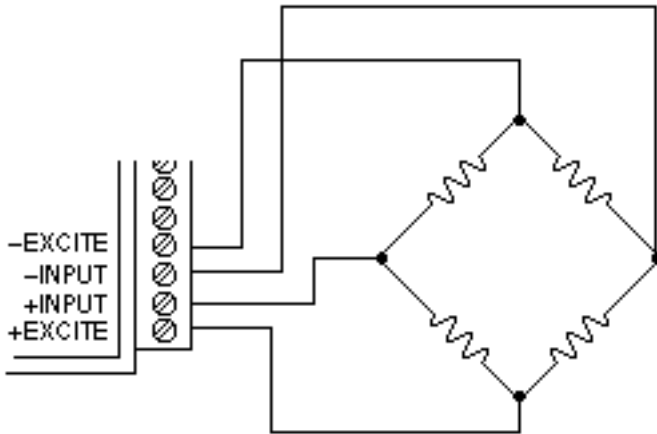
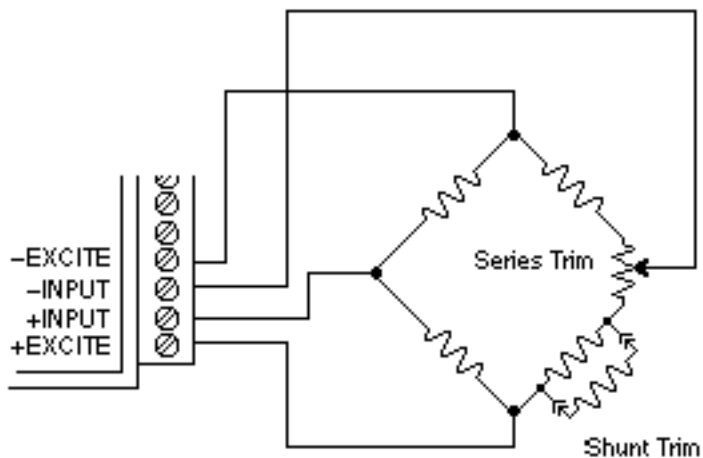

Figure D-1 Bridge Circuit Wiring
Figure D-2 Bridge Circuit Trim
To perform an initial offset trim, attach the bridge unit to the module (as shown in Figure D-1). Clear out any previous offset trims with the Clear Zero (CZ) command. Apply the desired zero condition to the bridge sensor. For a Strain Gage Bridge this would be the relaxed or unstrained condition. For load cells, the zero condition could include any tare weight due to a weighing platform or other attachments that would affect the zero balance. Obtain an initial reading using the Read Data (RD) command. The output data will indicate the total offset of the system. Subtract the offset value from the usable input range of your module, either $\pm 60\text{mV}$ or $\pm 120\text{mV}$. The result is the maximum usable "input overhead". If the overhead is not sufficient for your application, the bridge must be trimmed externally to lower the offset to an acceptable value. The bridge may be trimmed with a small series resistance or a large shunt resistance to the appropriate leg of the bridge (as shown in Figure D-2). If the initial offset is acceptable, the offset may be trimmed with the Trim Zero (TZ) command.